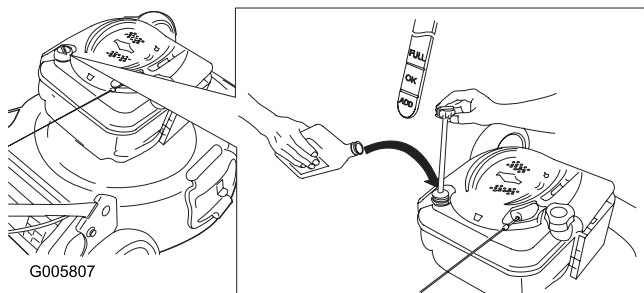

Figure 6
1. Retirez la jauge (Figure 6).